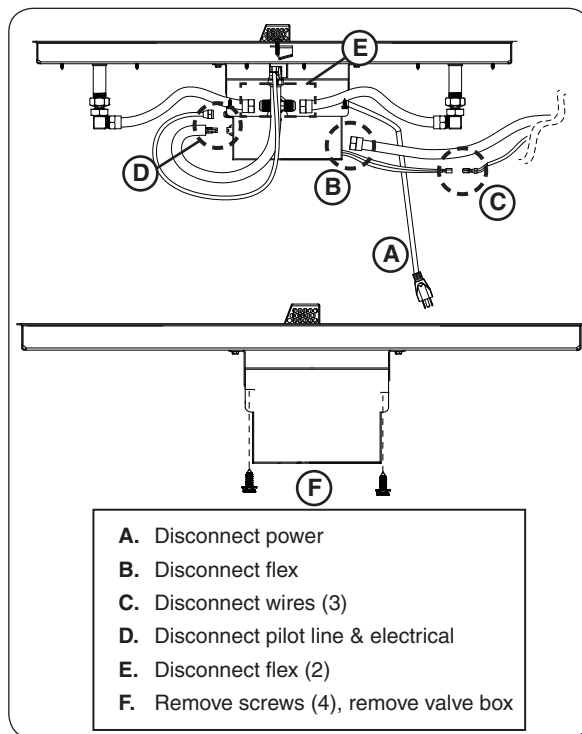

Fig. 34-2 Gain access to valve box
3. Remove the burner and gain access to the valve box as shown in Fig. 34-2.